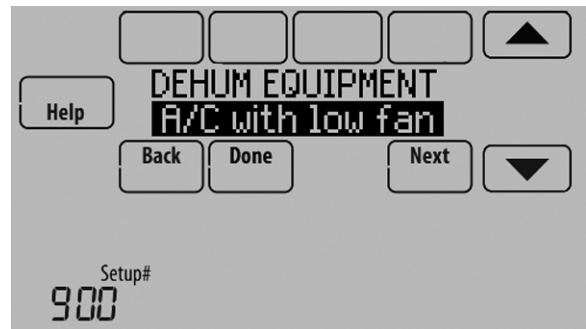

Fig. 188.
1. Select the Dehumidification Equipment in ISU 900. See Fig. 188.